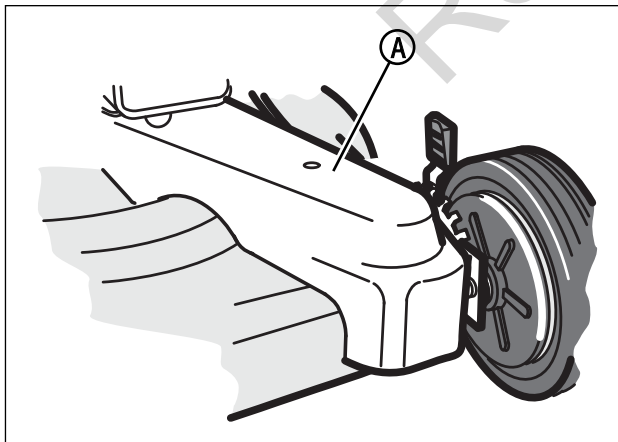

Figure 22: Removing the belt cover
1. Remove the screw that secures the belt cover (A, Figure 22). Remove the belt cover.